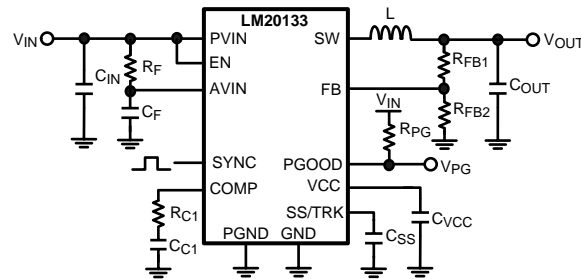

Figure 3. Typical Application Circuit
The LM20133 switching regulator features all of the functions necessary to implement an efficient low voltage buck regulator using a minimum number of external components. This easy to use regulator features two integrated switches and is capable of supplying up to 3A of continuous output current. The regulator utilizes peak current mode control with nonlinear slope compensation to optimize stability and transient response over the entire output voltage range. Peak current mode control also provides inherent line feed-forward, cycle-by-cycle current limiting and easy loop compensation. The internal oscillator can synchronize up to 1.5 MHz minimizing the inductor size while still achieving efficiencies up to 96%. The precision internal voltage reference allows the output to be set as low as 0.8V. Fault protection features include: current limiting, thermal shutdown, over voltage protection, and shutdown capability. The device is available in the eTSSOP-16 package featuring an exposed pad to aid thermal dissipation. The LM20133 can be used in numerous applications to efficiently step-down from a 5V or 3.3V bus. The typical application circuit for the LM20133 is shown in Figure 3.
This section walks the designer through the steps necessary to select the external components to build a fully functional power supply. As with any DC-DC converter numerous trade-offs are possible to optimize the design for efficiency, size, or performance. These will be taken into account and highlighted throughout this discussion. To facilitate component selection discussions the circuit shown in Figure 3 below may be used as a reference. Unless otherwise indicated all formulas assume units of amps (A) for current, farads (F) for capacitance, henries (H) for inductance and volts (V) for voltages.
To prevent high frequency noise spikes from disturbing the sensitive analog circuitry connected to the AVIN and AGND pins, a high frequency RC filter is required between PVIN and AVIN. These components are shown in Figure 3 as  $C_F$  and  $R_F$ . The required value for  $R_F$  is 1Ω.  $C_F$  must be used. Recommended value of  $C_F$  is 1.0 μF. The filter capacitor,  $C_F$  should be placed as close to the IC as possible with a direct connection from AVIN to AGND. A good quality X5R or X7R ceramic capacitor should be used for  $C_F$ .